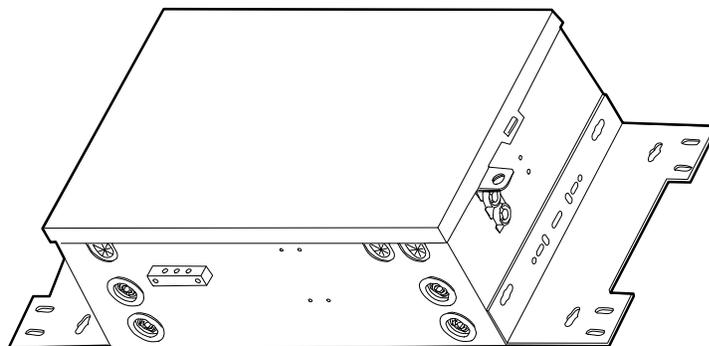

Figure 2
Step 1: Attach the mounting brackets to the FBT as shown in Figure 2, using #10-32 x 3/16-inch slotted pan-head screws and #10 flat washers.